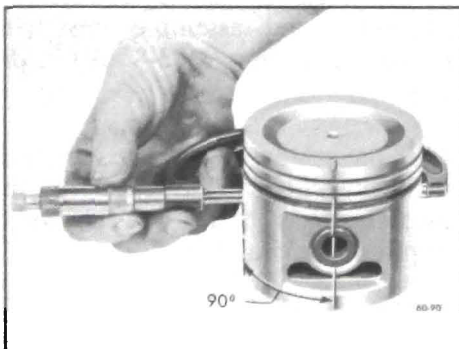

Figure 60-232--Measuring Piston
The pistons are cam ground, which means that the diameter at a right angle to the piston pin is greater than the diameter parallel to the piston pin. When a piston is checked for size, it must be measured with micrometers applied to the skirt at points 90° to the piston pin. See Figure 60-232. The piston should be measured (for fitting purposes) 1/4"
Before the honing or reboring operation is started, measure all new pistons with micrometer contacting at points exactly 90 degrees to piston pin (Figure 60-232) then select the smallest piston for the first fitting. The slight variation usually found between pistons in a set may provide for correction in case the first piston is fitted too free.
3. Measure the piston to be installed. See Figure 60-232. The piston must be measured at right angles to the piston pin 1/4" below the oil ring groove. The piston must be between .0008" and .0014" (350 Cu. In.) and .0007" to .0013" (400 and 430 Cu. In.) smaller than the cylinder bore.